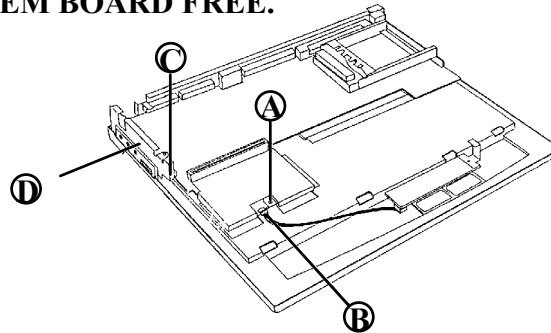

FIGURE 11-1
3. REMOVE THE SYSTEM BOARD SHIELD PLATE BY REMOVING ONE SCREW (FIGURE 11-1 A).
4. UNPLUG THE BUTTON BOARD CONNECTOR (FIGURE 11-1 B) FROM THE SYSTEM BOARD.
5. REMOVE ONE SCREW (FIGURE 11-1 C) FROM THE SYSTEM BOARD AND REMOVE THE SIDE SHIELD PLATE (FIGURE 11-1 D)